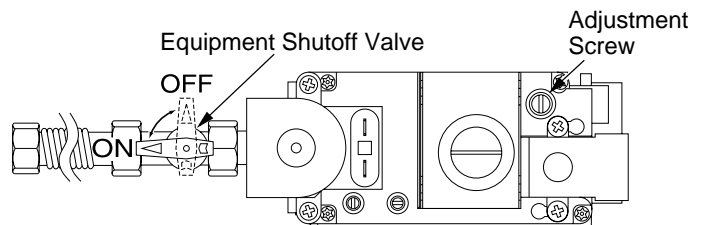

Figure 49 - Turning Equipment Shutoff Valve to the OFF Position
5. Turn equipment shutoff valve clockwise  to the OFF position (see Figure 49). Do not force.
6. Wait five (5) minutes to clear out any gas. Then smell for gas, including near the floor. If you smell gas, **STOP!** Follow "B" in the safety information above. If you don't smell gas, go to the next step.
- Turn the adjustment screw marked PILOT clockwise to decrease or counterclockwise to increase the flame to proper size (see Figure 49, page 25). Do not remove the adjustment screw.